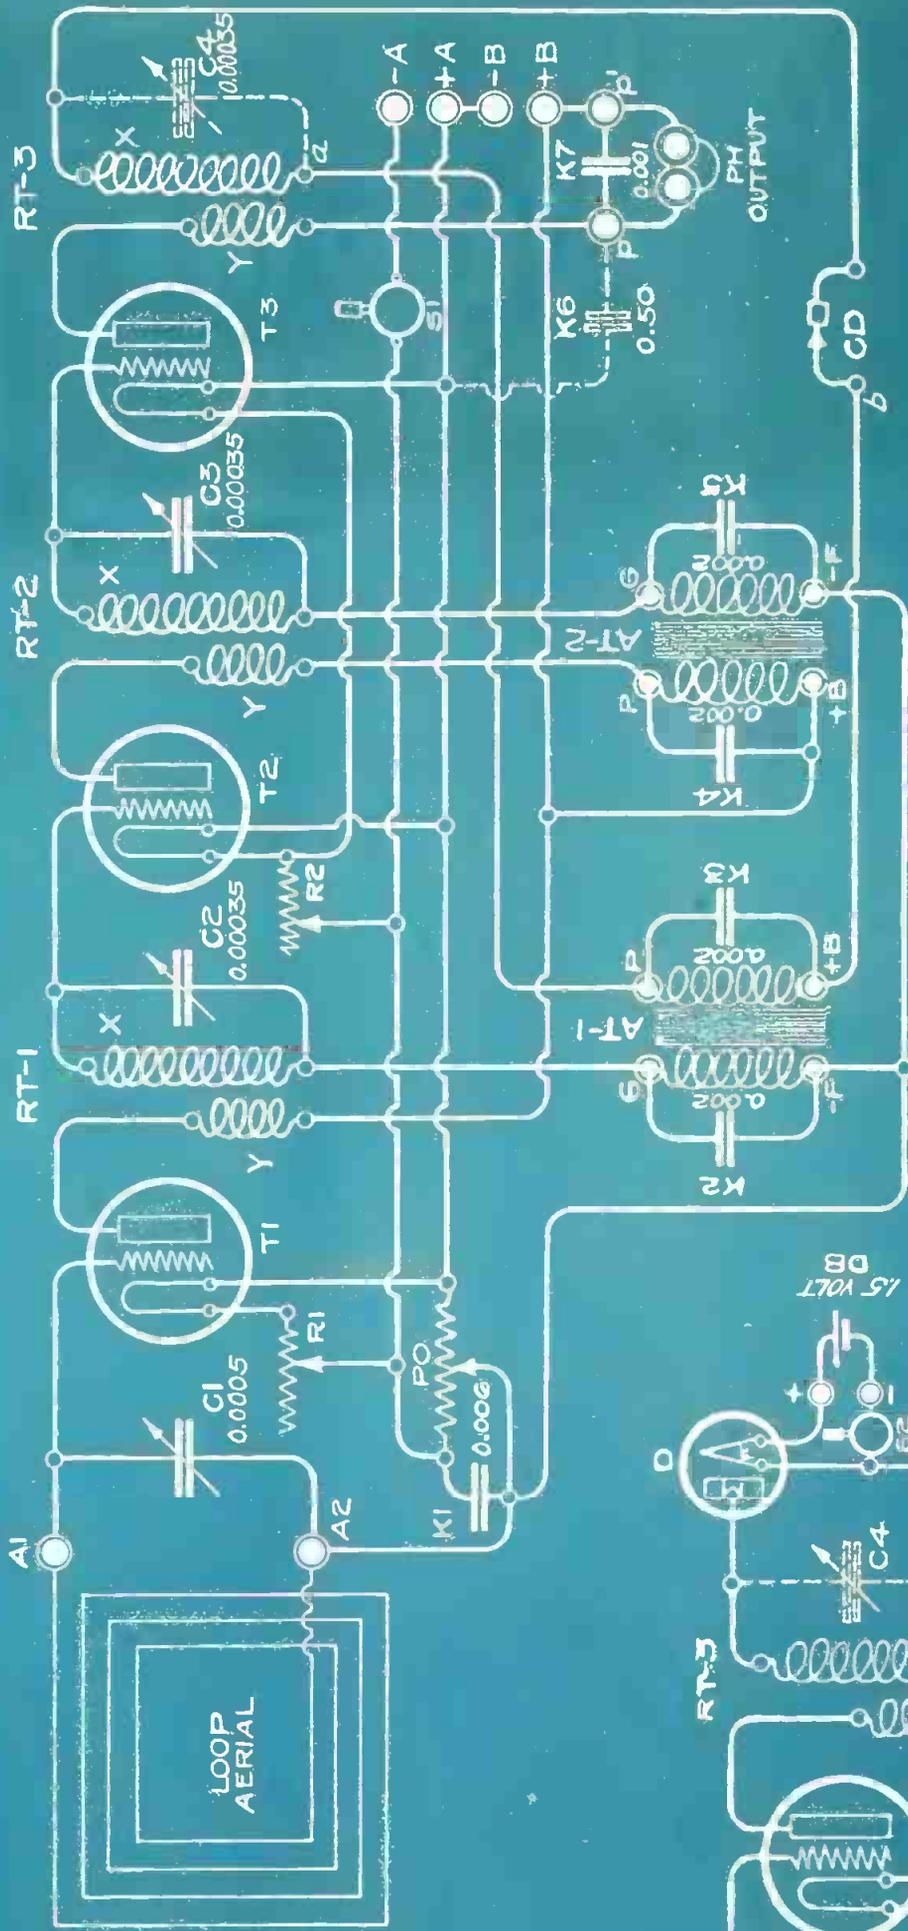
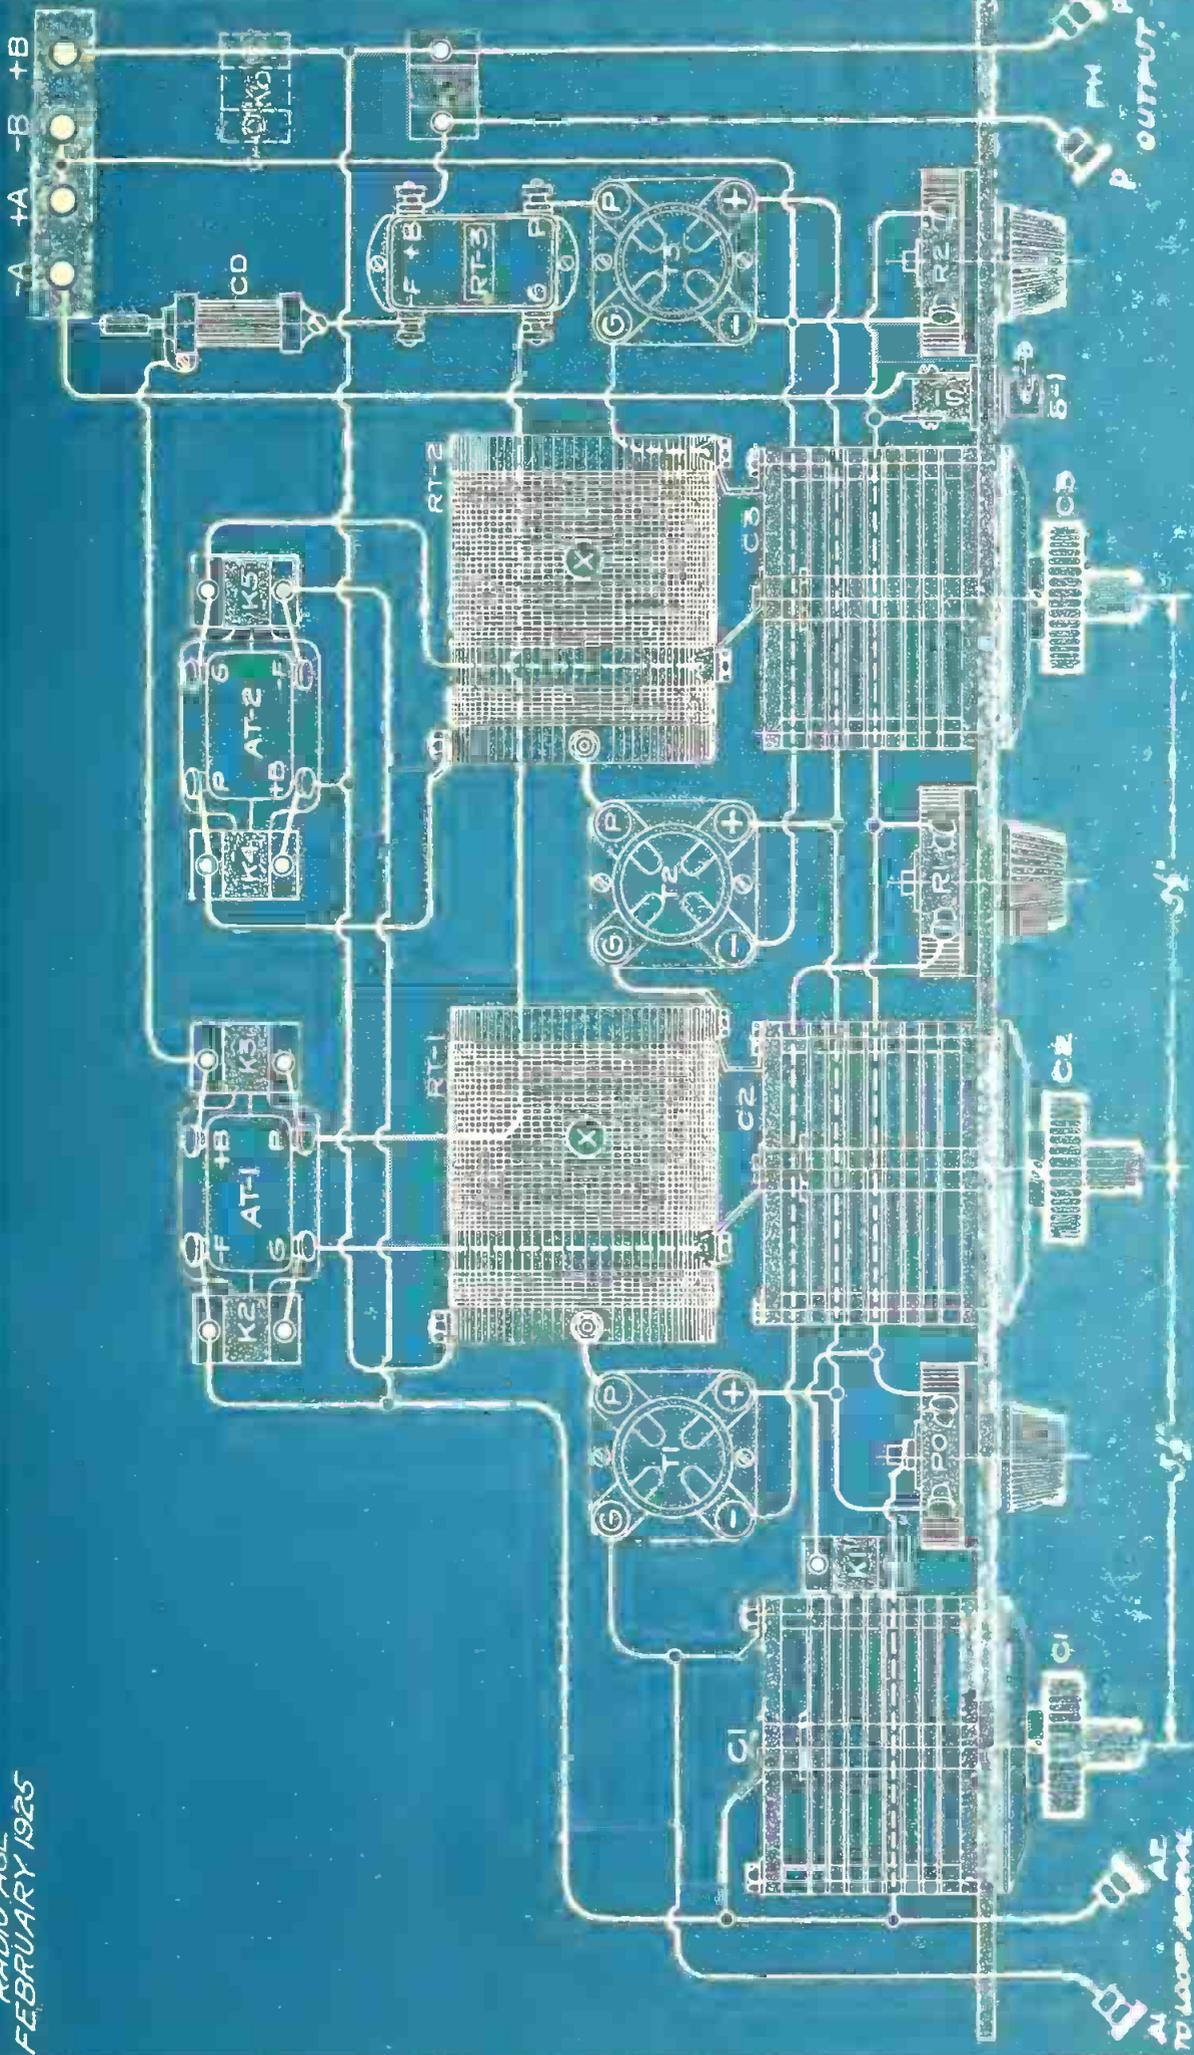
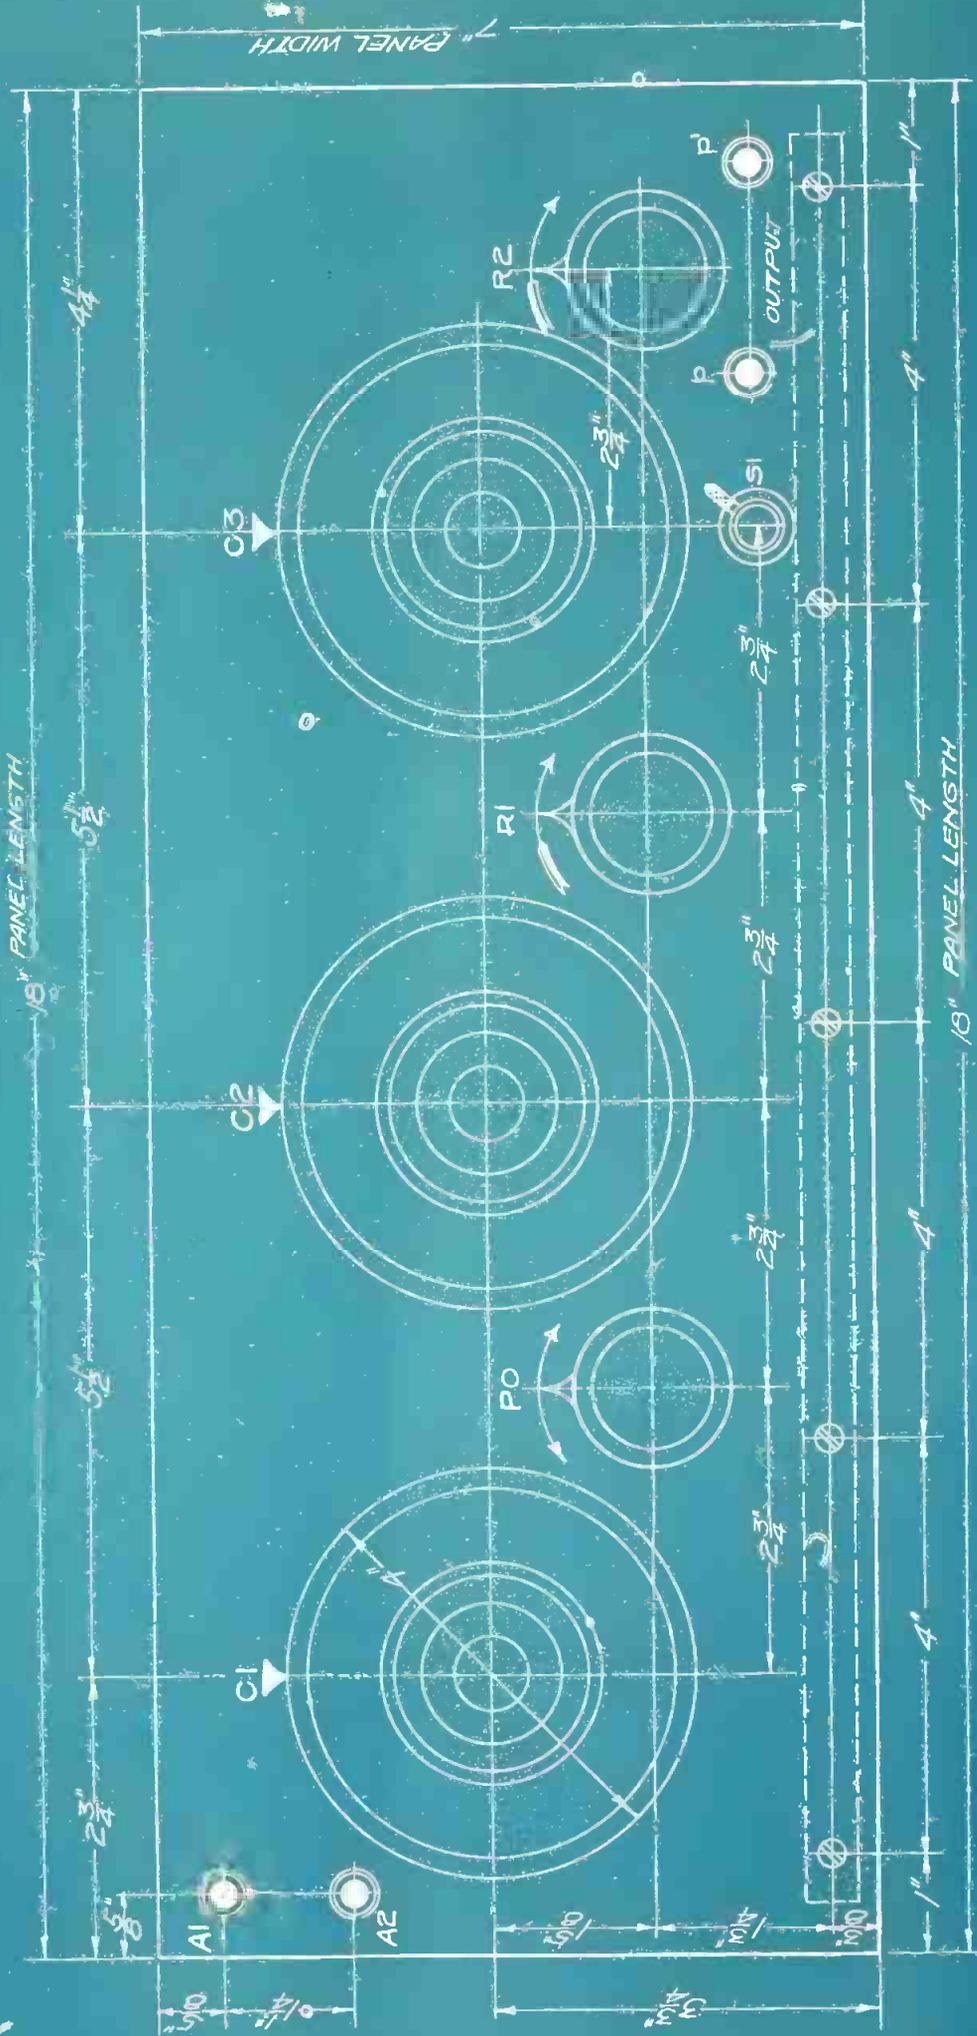
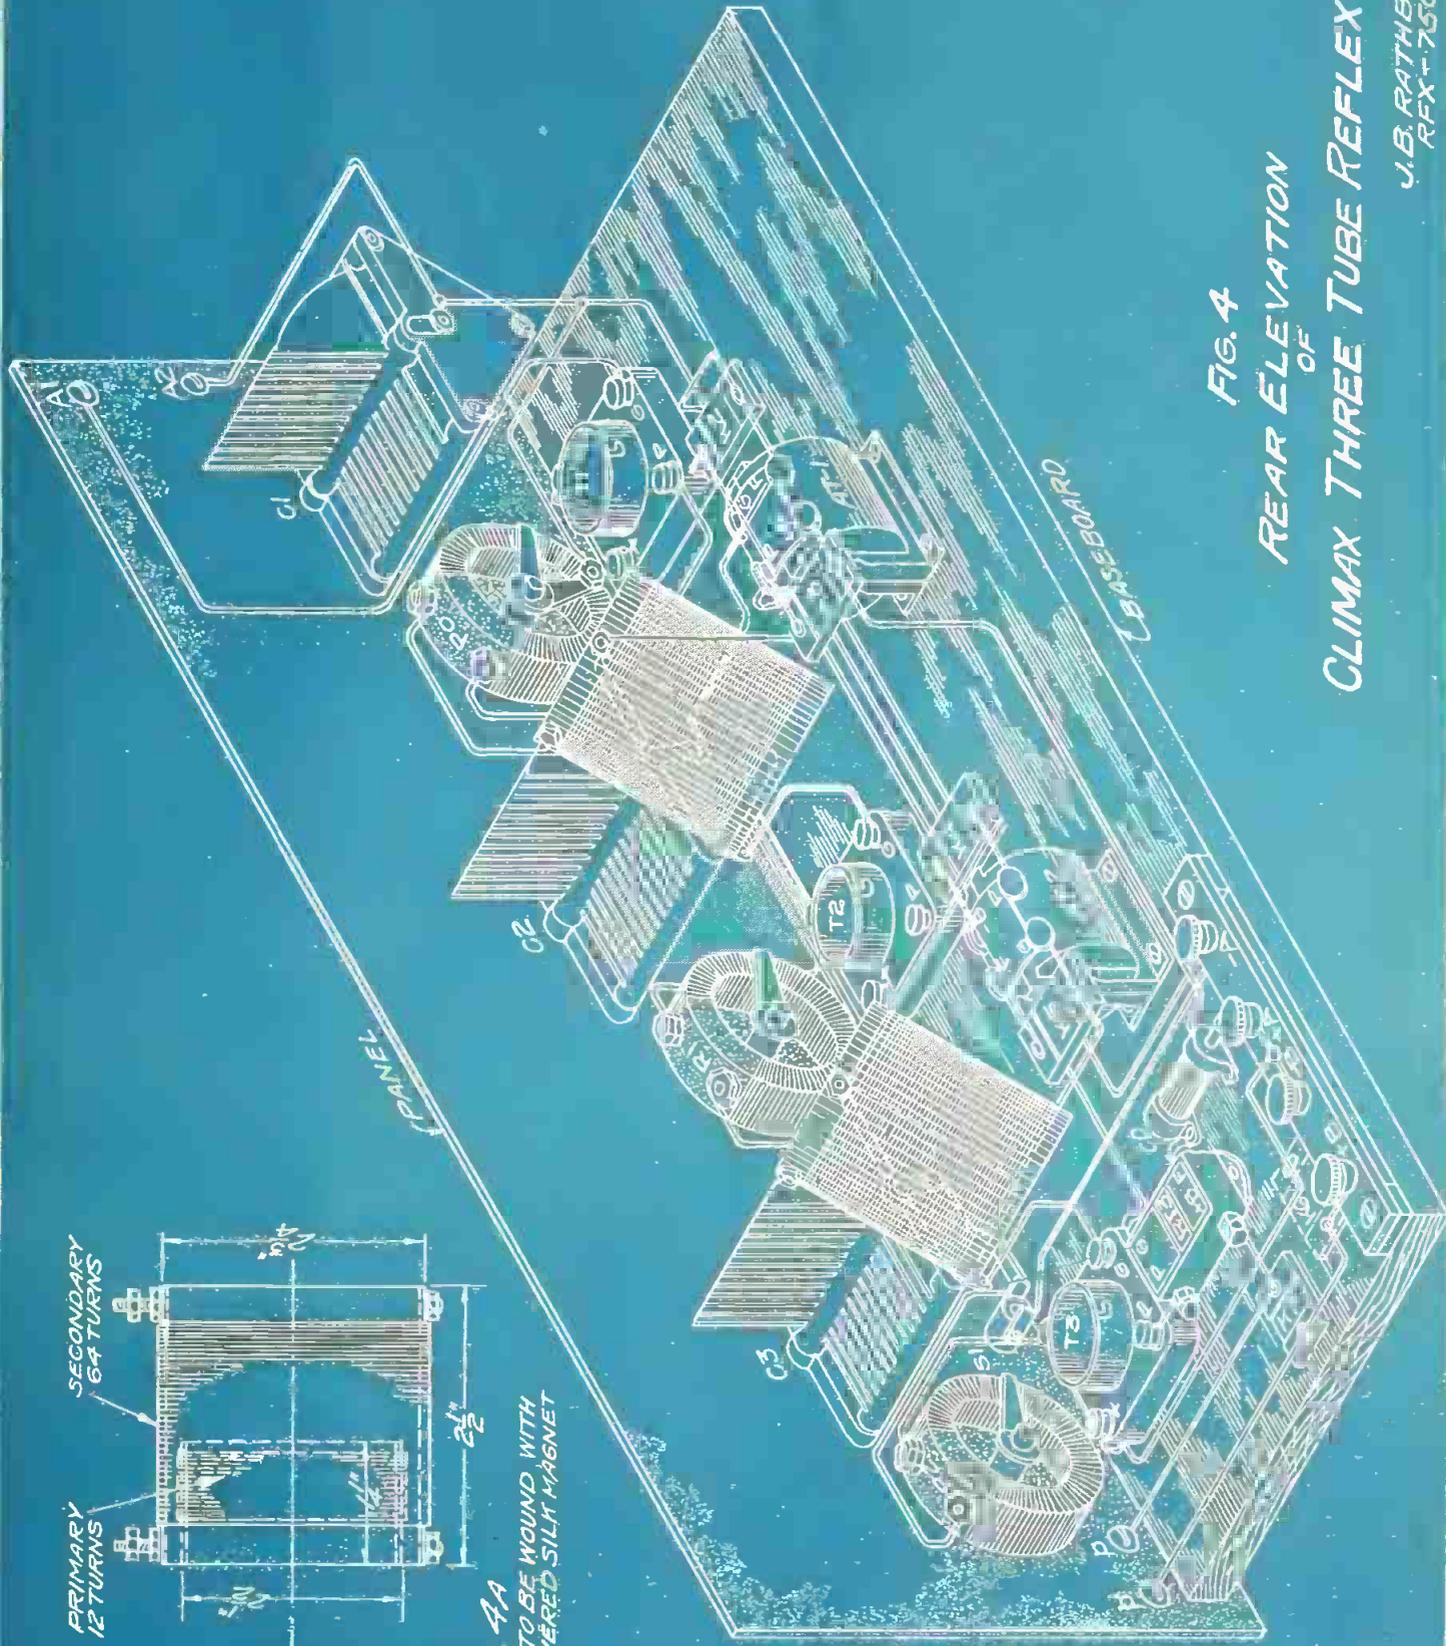

FIG. 1
Fig. 2
FIG. 3
FIG. 4
BOTH Fig. 1 and Fig. 2 show the same circuit but in different ways. Fig. 1 is the so-called conventional circuit with standard symbols for the more experienced builder, while Fig. 2 is a picture diagram for the novice. Fig. 3 is a panel layout showing arrangement of controls and approximate spacing of the panel mounted apparatus while Fig. 4 is an isometric view made for the purpose of showing how the apparatus actually looks back of the panel. For making the actual wiring connections, however, I strongly advise the wiring in either Fig. 1 or Fig. 2 be used, as many of the wires are concealed in the isometric view.
Now, looking at either Fig. 1 or Fig. 2, we see the three amplifying tubes T-1, T-2 and T-3. These may be either UV-201A or UV-199 tubes, but the WD-12 and WD-11 are not effective for this purpose. Two rheostats are used for the three tubes, one for the first radio stage (T-1) at (R-1) and rheostat (R-2) for the control of the two rear reflexed tubes (T-1—T-2). A plate voltage of 90 volts is supplied by the "B" battery to all of the tubes alike.
To avoid the use of so many condenser controls, the last transformer (RT-3) can be of the untuned type (Fig. 1) and by this method the variable condenser (C4) can be omitted as suggested by the dotted lines. This occasions a slight drop in the effectiveness of the circuit, but is usually advisable with sets operated by beginners. An untuned radio frequency transformer is shown at (RT-3) in Figs. 2, 3, 4. All the other stages are controlled or tuned across the secondary, which gives us three tuning controls including the loop tuner (C1). A standard loop aerial is connected across (A1) and (A2) in the usual manner.
At the extreme right in Fig. 1 is the crystal detector (CD) in series with the secondary coil (X) of the radio frequency transformer (RF-3). There is little requiring further explanation at this point than to say that the crystal circuit connects to the primary coil (P-B) of the first audio frequency transformer (AT-1). The leads running from (a) and (b) to the terminals (P) and (B) of the audio transformer (AT-1) should be temporary wires at first so that the connections (a) and (b) can be reversed in case of the transformer coils bucking. First, try them in the position shown and then reverse (a) and (b) to determine the best working position.